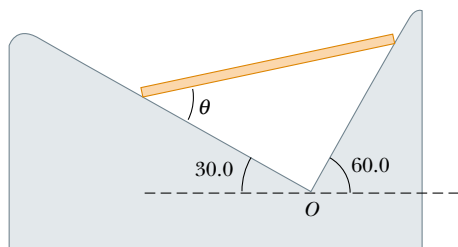

Figure P12.52
52. A uniform rod of weight F_g and length L is supported at its ends by a frictionless trough as shown in Figure P12.52. (a) Show that the center of gravity of the rod must be vertically over point O when the rod is in equilibrium. (b) Determine the equilibrium value of the angle θ .